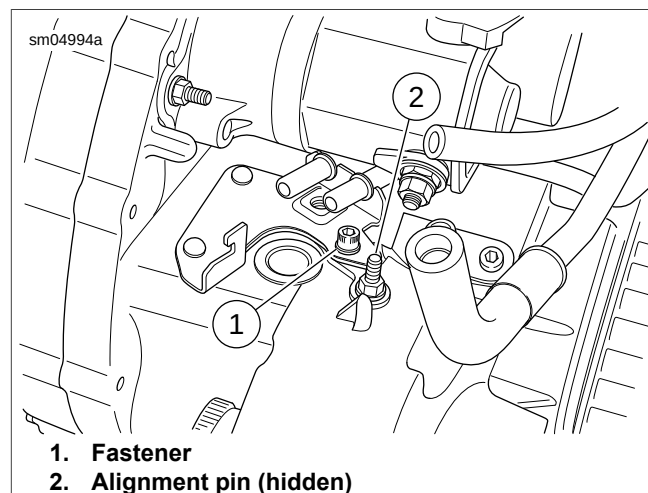
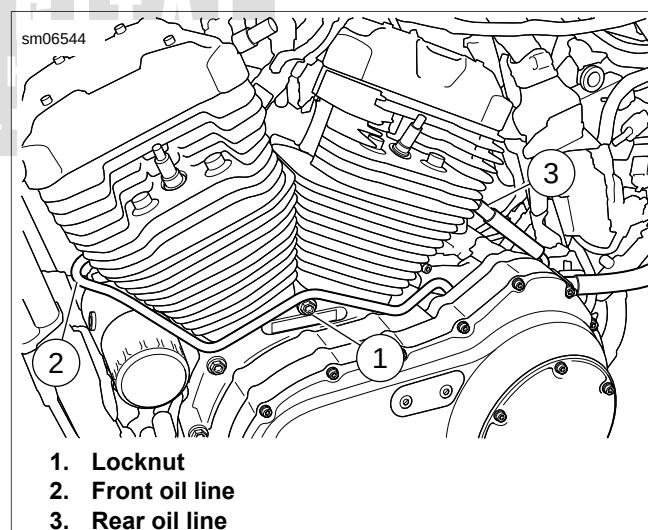

Figure 3-30. Rigid Oil Line Retainer
Figure 3-31. Cylinder Head Oil Lines
2. See Figure 3-30. Remove fastener (1) and raise retainer until alignment pin (2) is clear of bore in crankcase. Roll retainer out from beneath rigid oil lines to remove.
3. See Figure 3-31. Remove nut (1) and washer.
4. Separate front oil line (2) from cylinder head using OIL LINE REMOVER, 3/8 INCH (Part No. HD-49096).
5. Separate rear oil line (3) from cylinder head using OIL LINE REMOVER, 3/8 INC (Part No. HD-49096).
4. See Figure 3-31. Connect front oil line (2) to cylinder head. Verify that it is securely held by the retainer clip.
5. Secure front line to crankcase with locknut (1) and washer. Tighten to 84-108 **in-lbs** (9.5-12.2 Nm).
- a. See Figure 3-30. Roll retainer under rigid lines at rear of crankcase.
- d. Secure with fastener (1).
8. See Figure 3-31. Connect rear oil line (3) to cylinder head. Verify that it is securely held by the retainer clip.